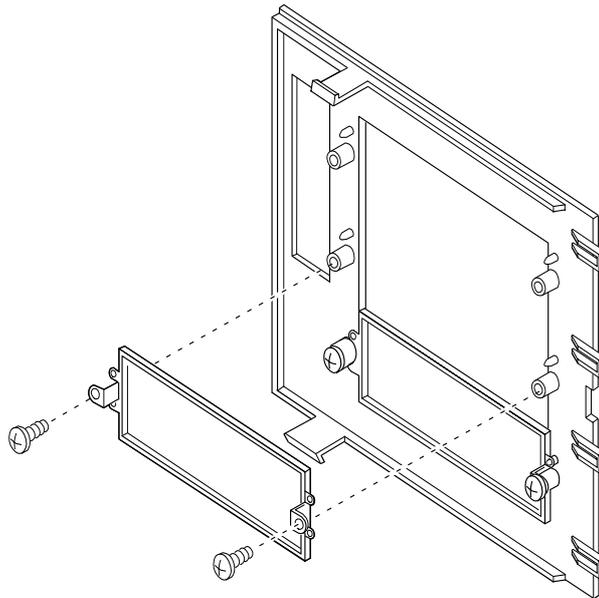
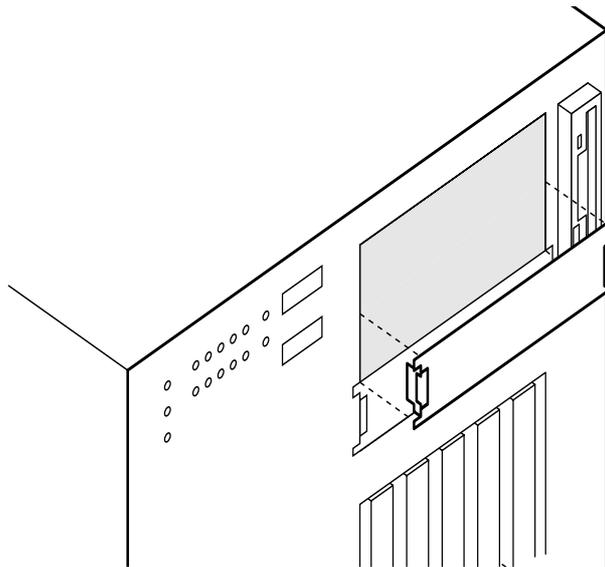

Figure 4-9. Filler Panels
Figure 4-10. Removing the EMI Shield (Bezel not shown for clarity)
6. If you intend to leave the bay empty, install a filler panel on the snap-in plastic peripheral bay cover (Figure 4-9) and a stainless steel EMI shield (Figure 4-10) on the bay for proper cooling and airflow.
4. Remove the screws and filler panel (Figure 4-9), set them aside.
5. Push the tab on the left side of the EMI metal shield (Figure 4-10) to the right to disengage it from the chassis. Save the shield.
See Figures 4-9, 4-10, 4-11 and 4-12.
See Figures 4-9, 4-10, 4-11, and 4-12.